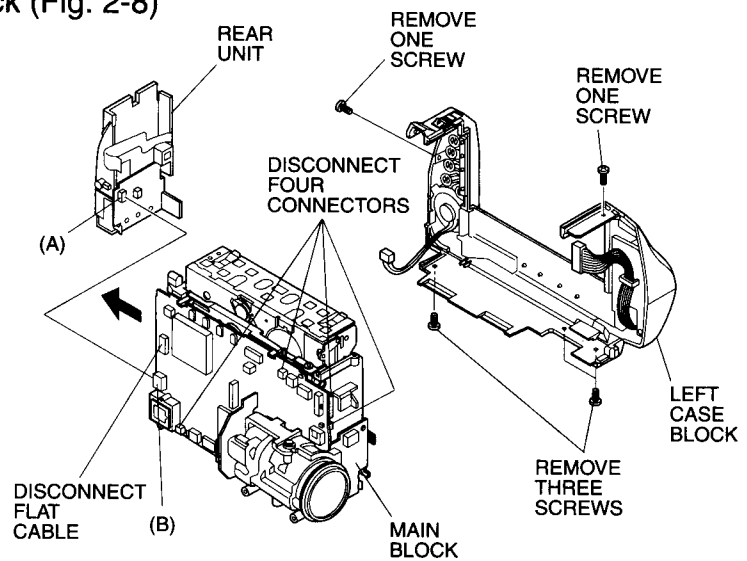

Fig. 2-8
2.7 Main Block, Rear Unit, Left Case Block (Fig. 2-8)